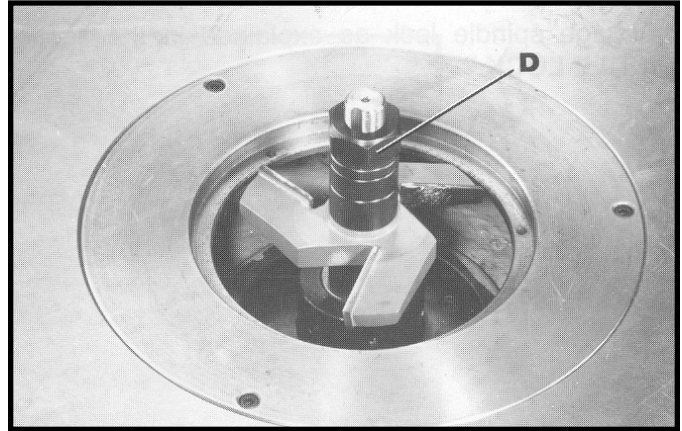

Fig. 37
4. Figure 37, illustrates the nut (D) threaded onto the spindle. Tighten nut (D) using the wrench supplied and disengage spindle lock.